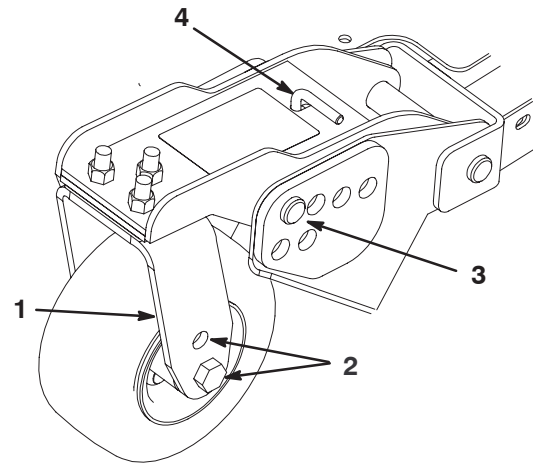

Figure 16
- Remove the hairpin cotter and clevis pins from the castor pivot arms (Fig. 16).
- Rotate tension rod to raise or lower pivot arm until holes are aligned with selected height-of-cut bracket holes in the cutting unit frame (Fig. 16 & 17)